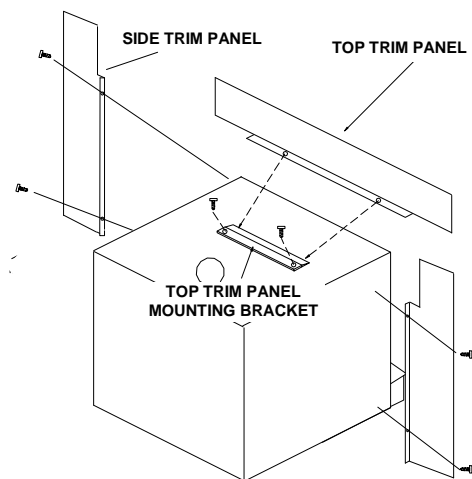

FIGURE 3 MOUNTING TRIM PANELS
1. Place side trim panels flat against face of fireplace. Mark front edge of trim panel with a pencil to make a vertical reference line. (See Figure 3).
4. Mount side trim panels. (See Figure 3).